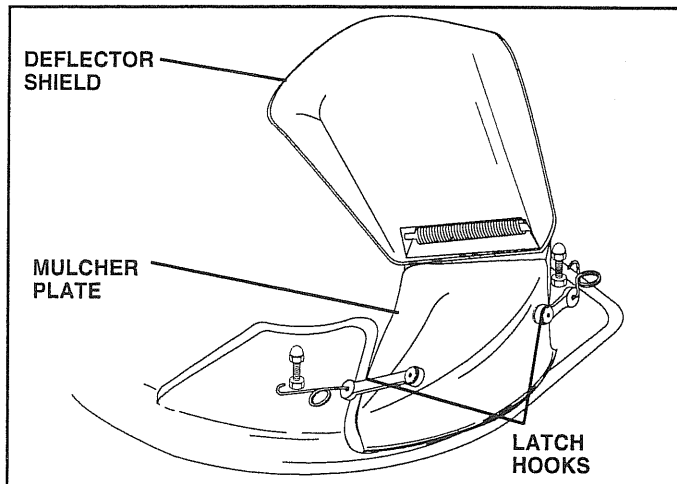

FIG. 6
- Slide seat until a comfortable position is reached which allows you to press clutch/brake pedal all the way down (See Fig. 6).